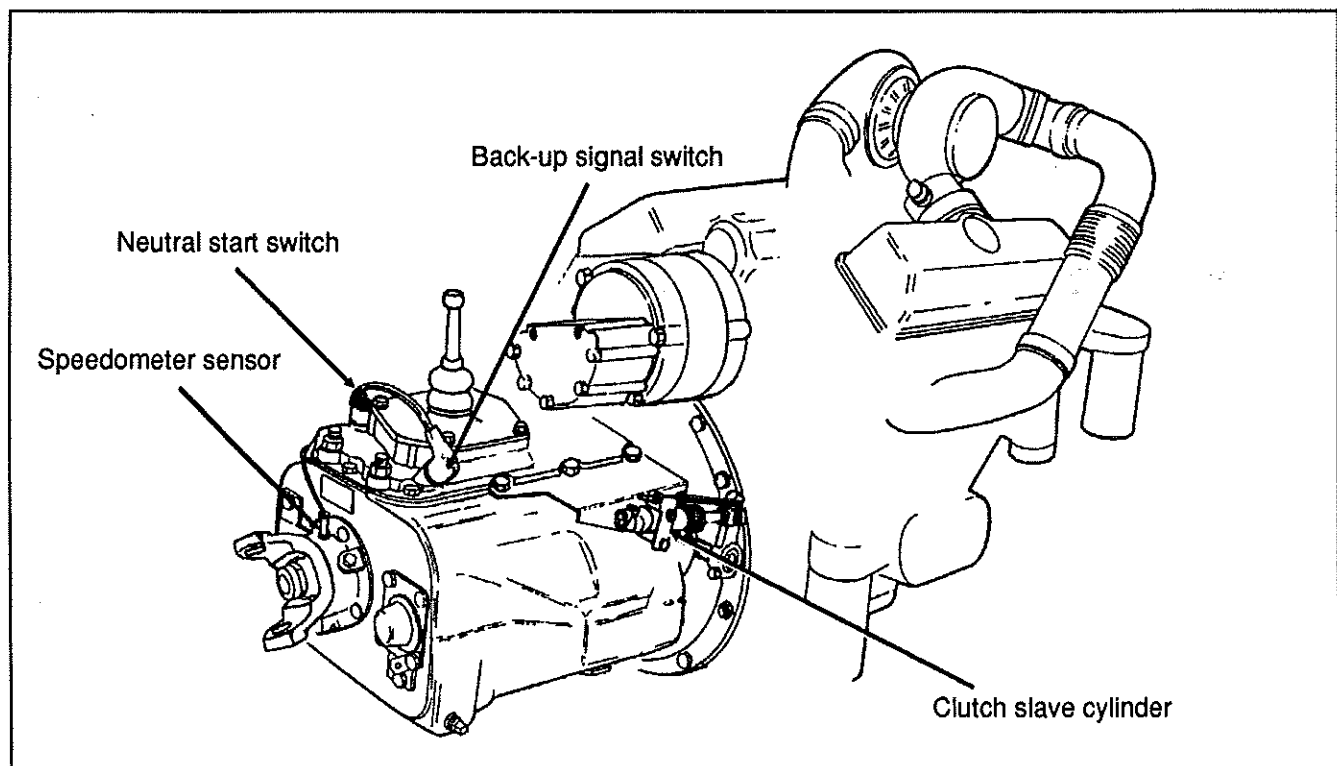

Fig. 6 - Manual transmission
8. Connect speedometer sensor, back-up signal switch and neutral start switch (refer to fig. 6).